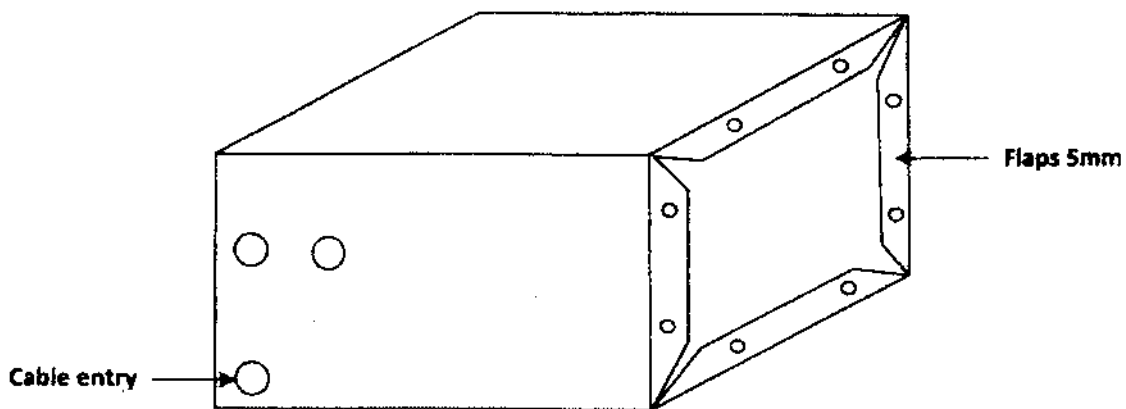

FIG 4
4. Figure 4 shows views of an amplifier circuit casing. Use the tools, equipment and materials provided to make the amplifier circuit casing shown in figure 3. (25 marks)